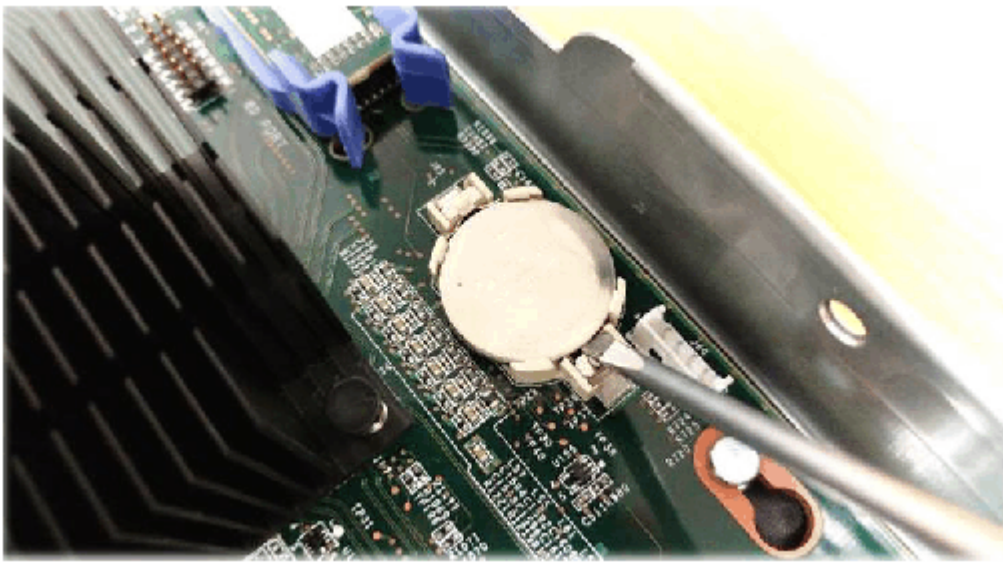

Figure 79. Replacing a CMOS battery
4. Use a flat head screwdriver to gently pop the CMOS battery out of the battery holder, as shown in Figure 79 on page 131. However, do not remove or loosen any screws in the node canister.